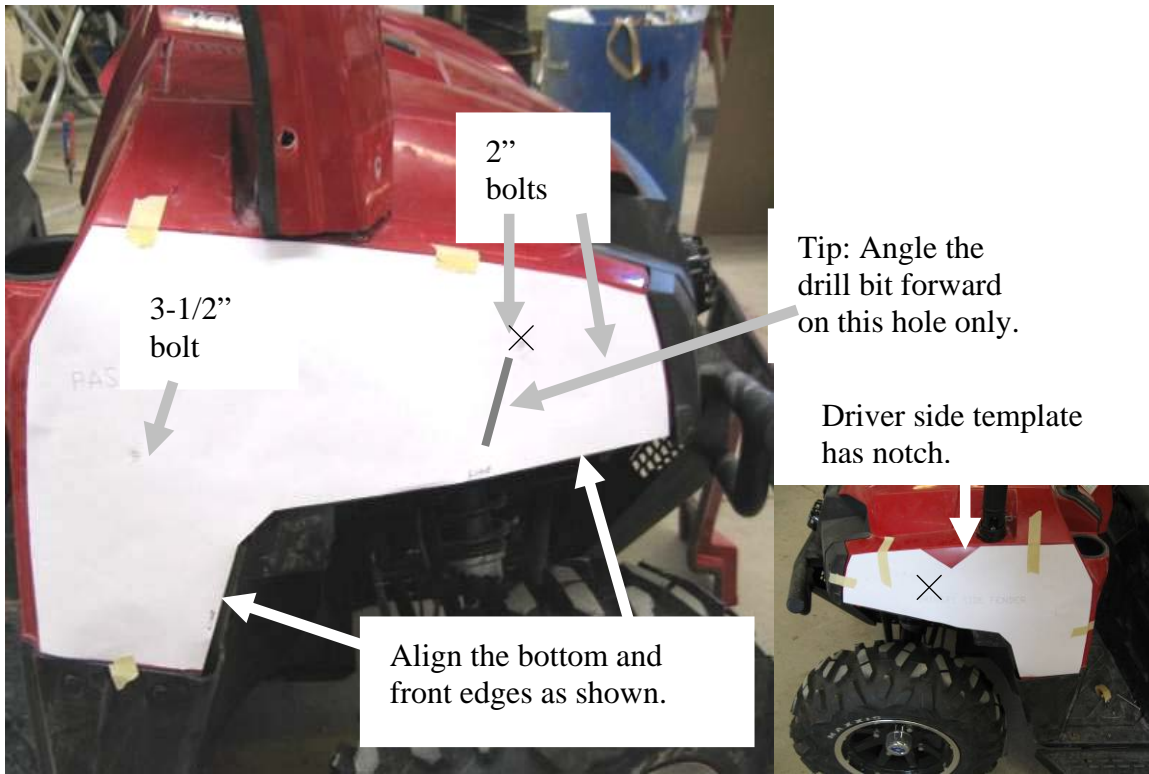

Figure 2
2. Install the lower side panel. First locate the supplied drilling template. This template needs to be taped onto the machine. Align as shown in Figure 2. It will locate where to drill the fastener holes. Be sure to use ample tape so the template doesn't move when drilling. This stage is critical. **BE SURE THE TEMPLATE IS ALIGNED PROPERLY.**